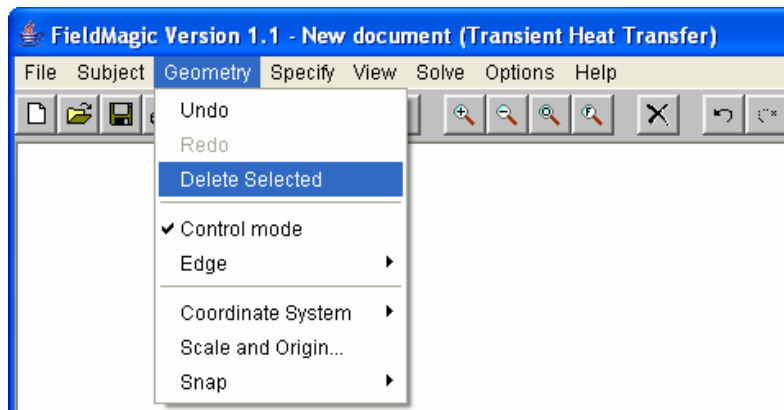

Figure 55. To delete the selected contours, select “Geometry” → “Delete Selected”
- Adding/Removing a Contour/Hole: New, closed contours can be added at any time by following the steps outlined in Section 3.2 for creating, Section 3.3 for setting the material properties or as a hole, and Section 3.4 for assigning boundary conditions. To remove a contour, right click inside the contour and select “Remove the contour” from the pop-up menu, Figure 54(a). Also, double-clicking inside the contour while in delete mode removes the contour. Several contours can be deleted at once by holding “Shift” and left clicking once inside each contour to select a set of contours (shown in red). After selecting the contours, select “Delete Selected” from the “Geometry” menu (Figure 55) or hold control “Ctrl” and press “X”.